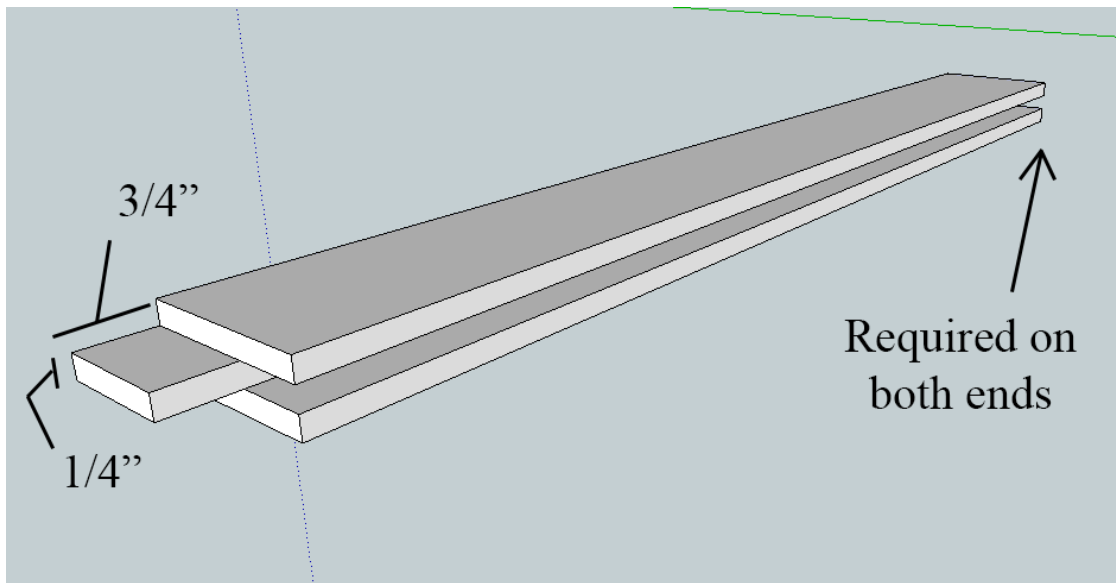

Figure 13: Door Rail with Tongue and Groove
2. On each end of the rail boards, remove material to expose a $\frac{1}{4}$ " thick tongue centered on the edge that is $\frac{3}{4}$ " long similar to the illustration in Figure 13. The tongue should fit snugly into the groove on the stiles.